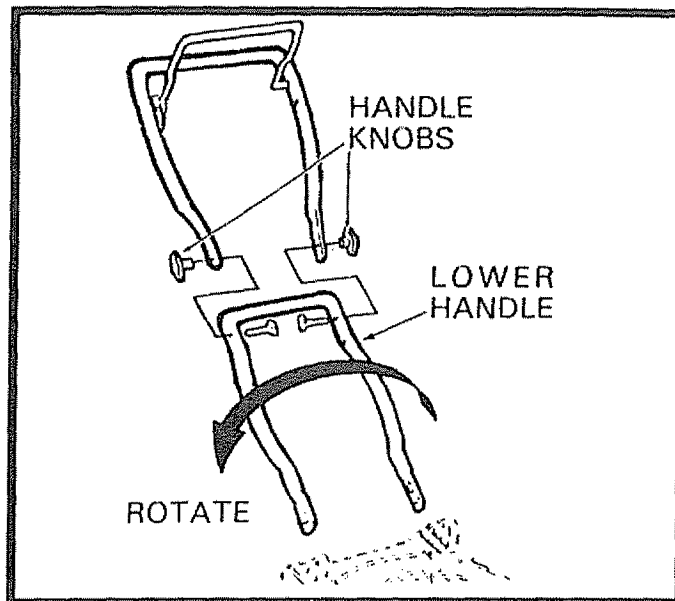

FIG. 15
- To change from high to low position, only the lower handle section will have to be turned over. (See Fig. 15.)